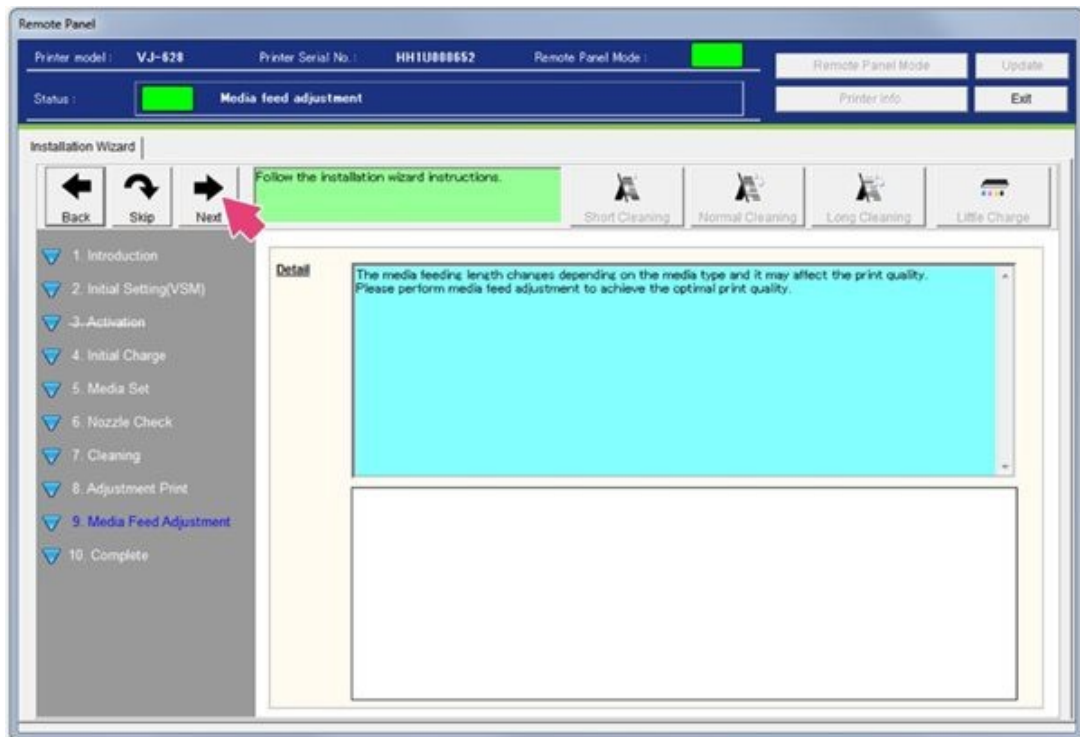

Figure 93
80. You will now start the media feed adjustment. Select **Next**. See Figure 93.